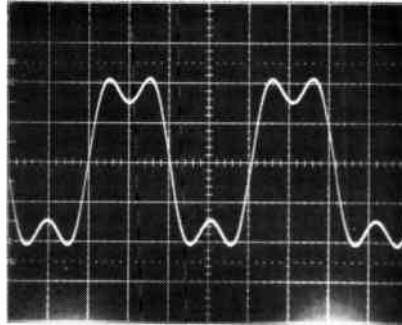

Fig. E-3: 5kHz Overdriven FCS Output
4) Increase the oscillator output 4dB. Substantial clipping should occur. Now sweep the oscillator frequency upward, and verify that the peak level of the output waveform never exceeds the "flat-top" level of the 100Hz clipped sine wave by more than 0.7dB, and that this 0.7dB peak occurs at approximately 4.4kHz. At this frequency, the waveform should resemble a filtered square wave with two equal cycles of ringing on the top and bottom of the wave (Fig. E-3). If substantially more than 0.7dB overshoot occurs, particularly if the ringing is not symmetrical, then suspect problems in the filters or phase-shift networks associated with the FCS circuit.